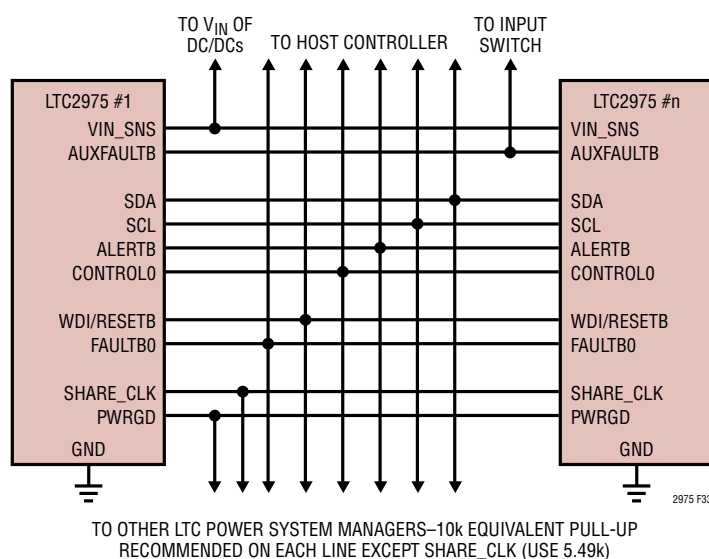
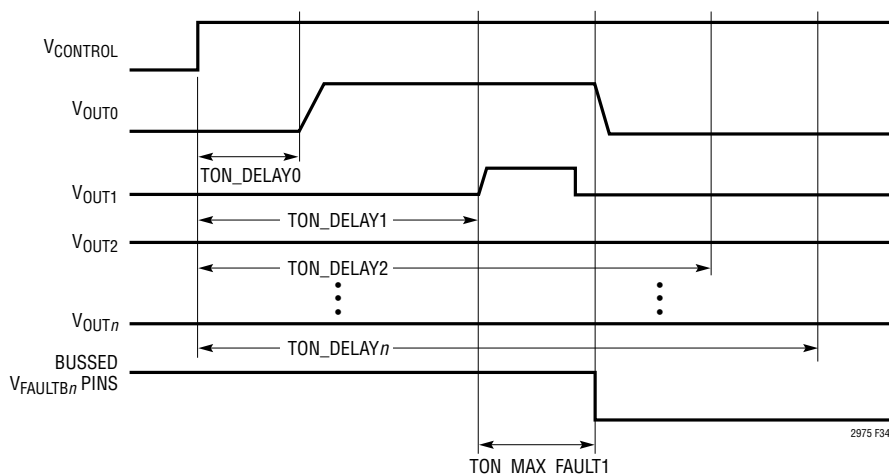

Figure 33. Typical Connections Between Multiple LTC Power System Managers
Figure 34. Aborted On-Sequence Due to Channel 1 Short
Figure 33 shows how to interconnect the pins in a typical multi-LTC2975 array.
- The FAULTB lines can be connected together to create fault dependencies. Figure 33 shows a configuration where a fault on any FAULTB will pull all others low. This is useful for arrays where it is desired to abort a startup sequence in the event any channel does not come up (see Figure 34).
- PWRGD reflects the status of the outputs that are mapped to it by the MFR_PWRGD_EN command. Figure 33 shows all the PWRGD pins connected together, but any combination may be used.